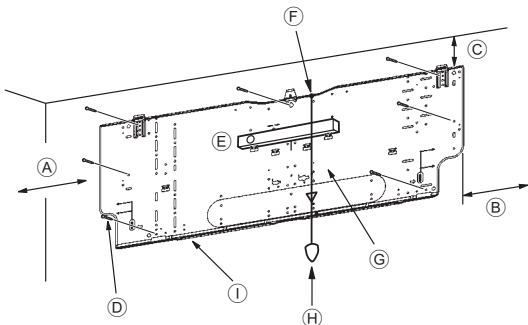
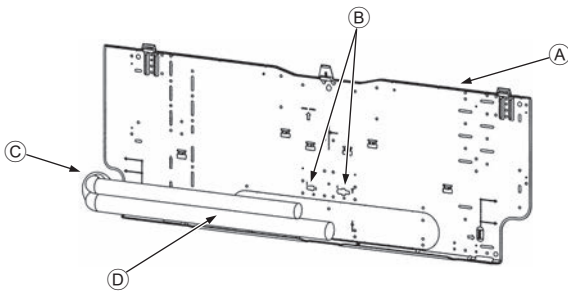

Fig. 3-4
Fig. 3-5
■ PKFY-P-VKM-E (Fig. 3-4)
- Ⓓ Fixing screws (4 × 25) ②
- Ⓚ Mount board ①
3.3. When embedding pipes into the wall (Fig. 3-5)
- Ⓐ Mount board ①